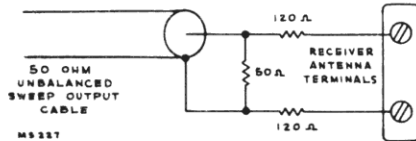

Figure 30—Method of Terminating Sweep Generator
**R-F AND CONVERTER LINE ADJUSTMENT**—Connect the r-f sweep oscillator to the receiver antenna terminals. If the sweep oscillator has a 50 ohm single-ended output, balanced output can be obtained by properly terminating the sweep output cable and by connecting a 120 ohm non-inductive resistor in series between the sweep output cable and each receiver antenna terminal. (See Figure 30.) Connect
NOTE 2: If sweep generator has "single ended" output, it will be necessary to disconnect the transmission-line jumper from the terminals adjacent to the r-f tube (V1). Feed the sweep signal in from either terminal to ground. The signal generator marker signal may then be fed into the unused terminal through a 5.6 mmf capacitor. An alternate method for connecting a "single-ended" sweep generator is to use the terminating arrangement shown in Figure 30.